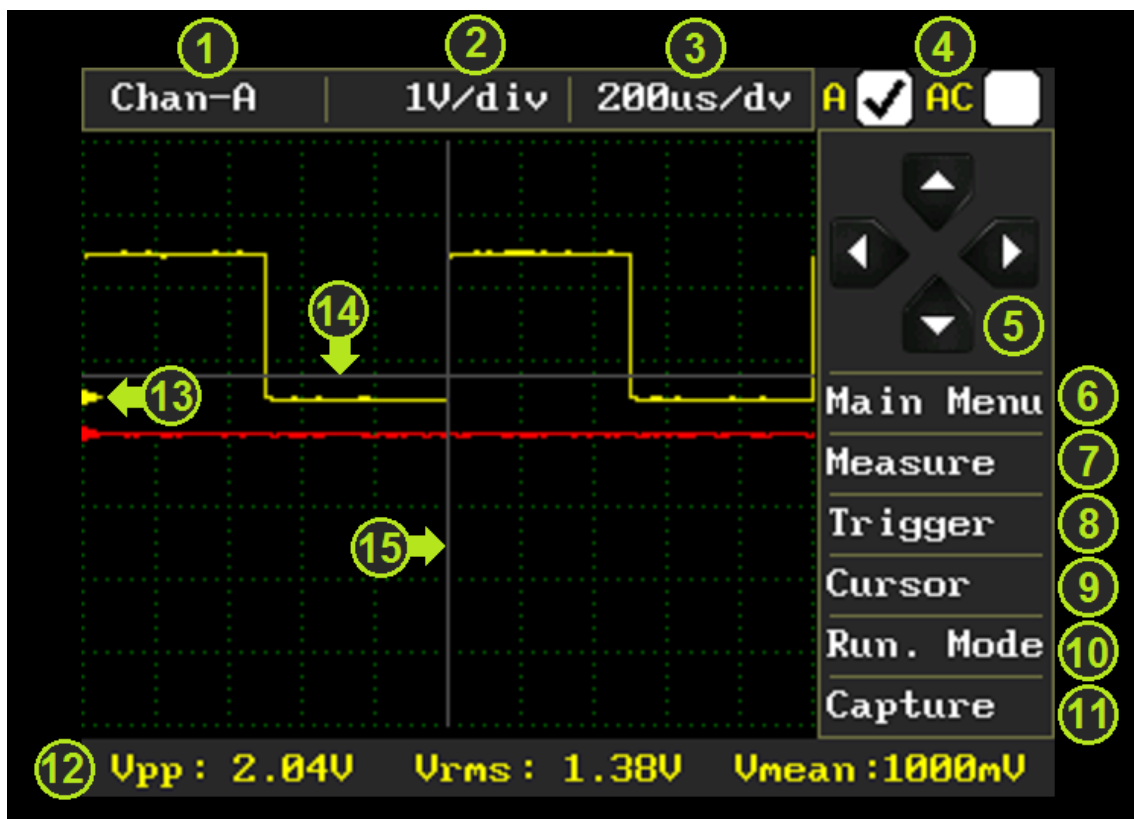
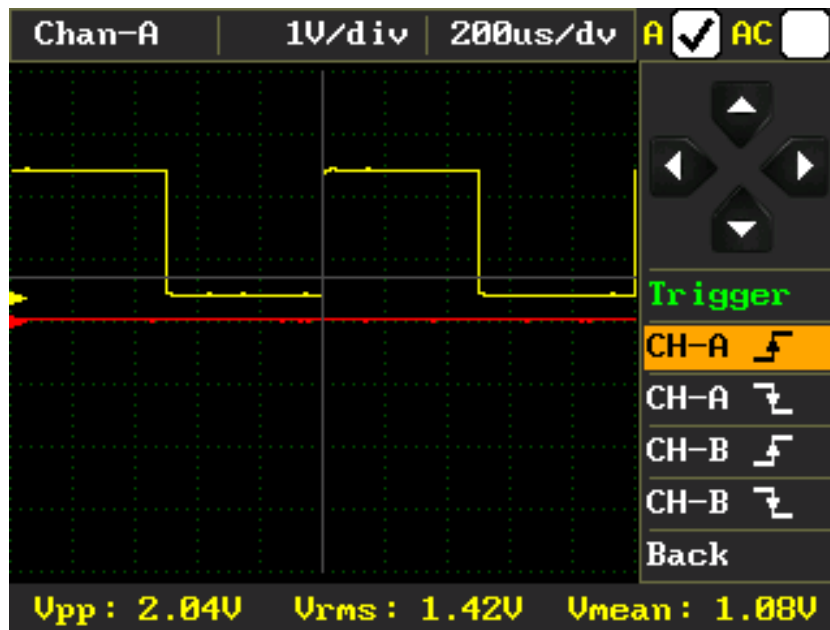

Figure 4. Oscilloscope mode display description
Figure 5. Triggering setting for Channel A
To keep the observed signal stable on the display, the trigger source must be selected for that channel. Otherwise, it will be difficult to observe because the signal will be very moving on the display. To set the trigger source, trigger menu should be opened by pressing the button shown as (8) in the Figure 4. Then, trigger channel and trigger edge should be selected from the menu seen in the Figure 5.
In Figure 5, the trigger source is set to channel A, and catching occurs at the intersection of the horizontal (14) and vertical (15) triggering cursors.
Horizontal sensitivity can be set from **1.25 us/div** to **500 ms/div**. It is set from the menu (3) as shown in Figure 4.
Since vertical sensitivity may be set for each channel separately, initially the channel to be set will be selected at (1) in Figure 4. After channel selection is made, vertical sensitivity is set from the menu number (2). Vertical sensitivity can be set from **50 mV/div** to **50 V/div**.